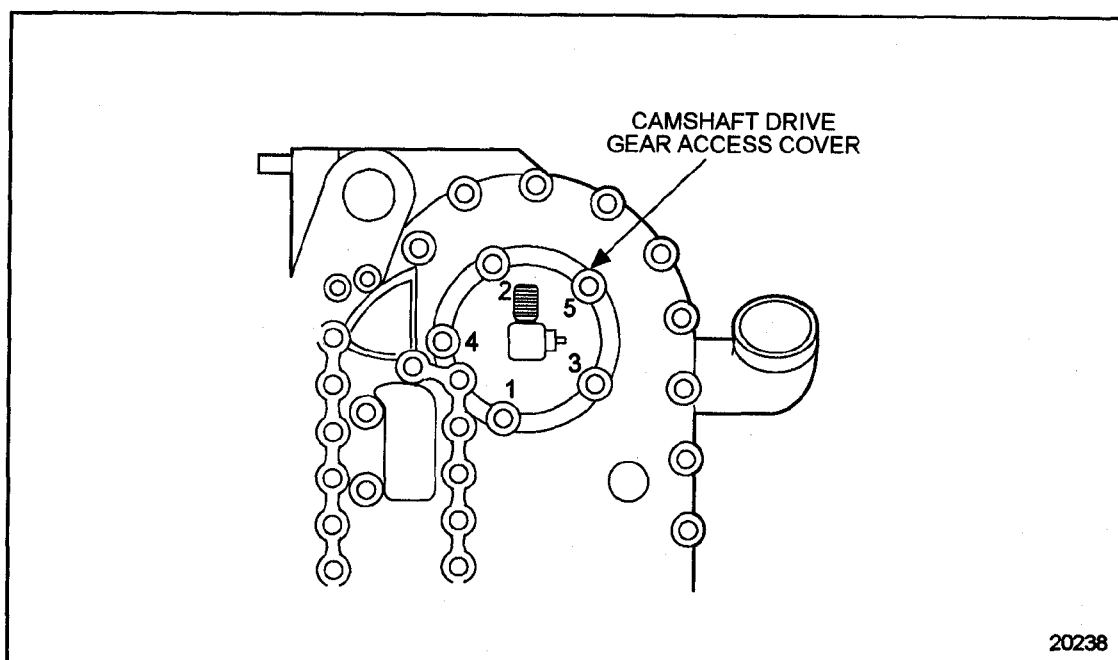

Figure 8-19 Camshaft Drive Gear Access Cover Bolt Tightening Sequence
4. Install the camshaft drive gear access cover retaining bolts, and torque the bolts to 30-38 N·m (22-28 lb·ft) using the pattern as shown in the illustration. See Figure 8-19.